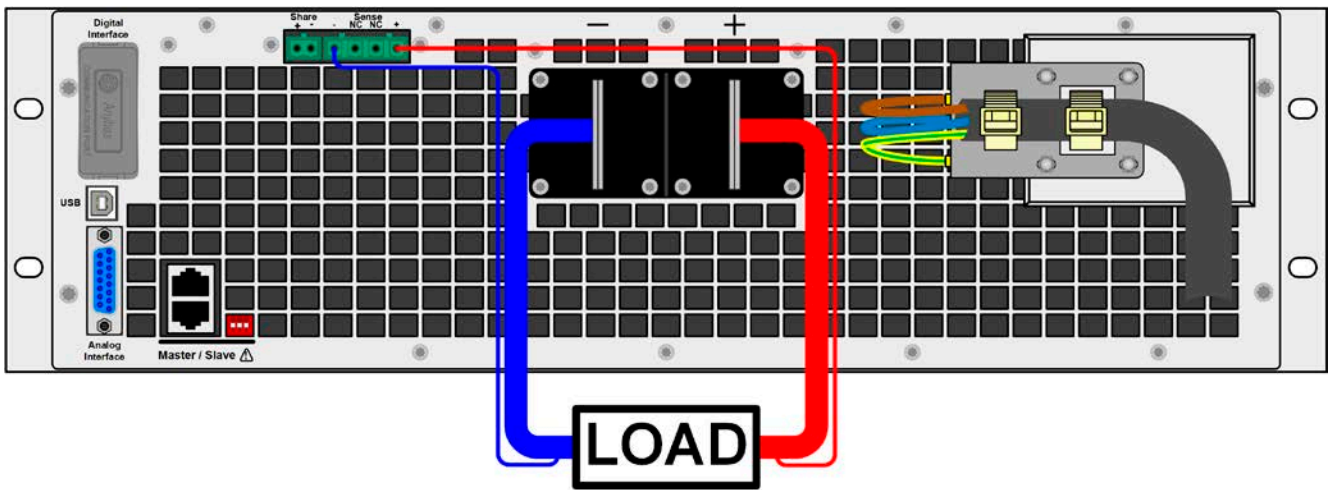

Figure 8 - Example for remote sensing wiring with load in source mode (sink mode will be wired identically)
- *Remote sensing is only effective during constant voltage operation (CV) and for other regulation modes the sense input should be disconnected, if possible, because connecting it generally increases the oscillation tendency*
- *The + sense cables must be connected to + on the load/source and - sense to - at the load/source, otherwise the sense input could be damaged. For an example see Figure 8 below.*